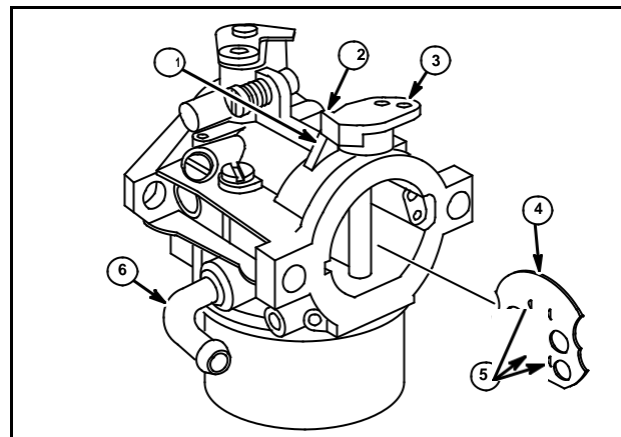

Fig. 113
1. Insert spring inside large foam seal and slide seal and spring onto choke shaft with straight end of spring up toward choke shaft lever (3).
2. Insert choke shaft into carburetor body until hook of spring hooks on spring anchor (1).
3. Lift choke shaft and lever up slightly and turn counterclockwise until stop on lever (2) clears spring anchor (1) and push shaft down, Fig. 113.
4. Insert choke plate (4) into choke shaft and lever with dimples (5) toward fuel inlet (6) side of carburetor. Dimples help to hold and align choke plate on shaft.